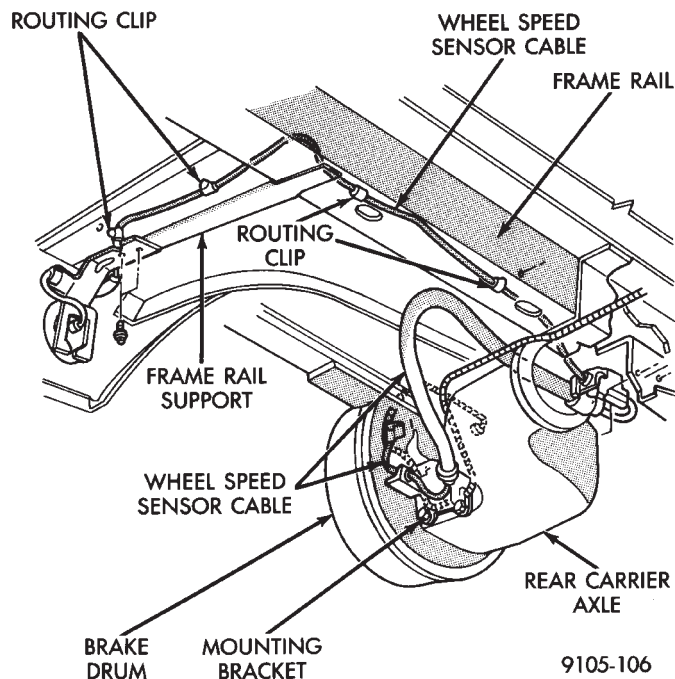
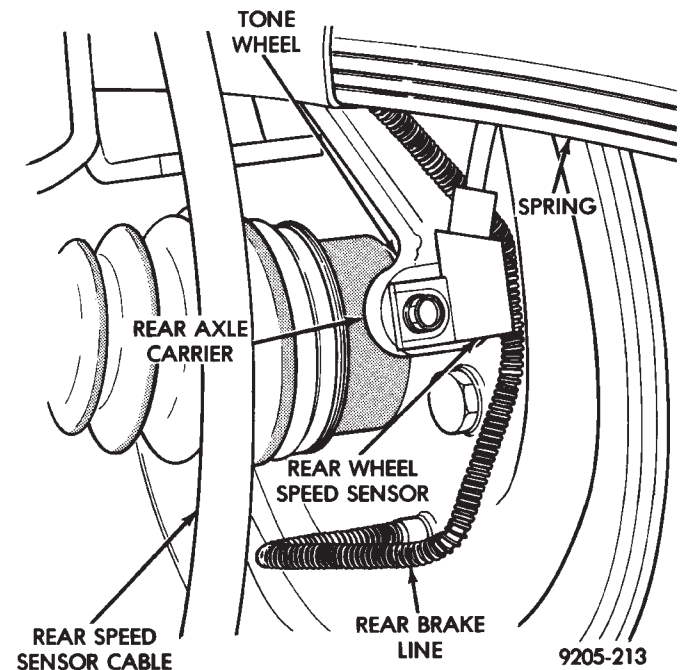

Fig. 23 Rear Wheel Speed Sensor Routing A.W.D
Fig. 24 Rear Wheel Speed Sensor Mounting A.W.D INSTALLATION ALL WHEEL DRIVE.
(1) Raise vehicle and remove rear wheel and tire assembly.
(2) Remove rear speed sensor wiring grommet, retaining bracket. Remove grommet from underbody and pull harness through hole in underbody. (Fig. 23) **When removing grommet from underbody, do not pull on speed sensor cable.**
(3) Unplug speed sensor cable connector, from vehicle wiring harness.
(4) Remove the 4 arrow head clips which route the speed sensor cable along the underbody (Fig. 23).
(5) Remove the speed sensor cable and its frame rail routing bracket as an assembly. (Fig. 23).
(6) Remove the 2 bolts which secure the speed sensor cable assembly mounting bracket to the rear axle. Remove the bracket assembly from the vehicle by rotating the bracket and removing it from under the brake tube.
(7) Remove the speed sensor assembly attaching bolt (Fig. 24).
(1) Position the rear wheel speed sensor assembly bracket under the brake tube (Fig. 23). Hand start the outboard bracket attaching bolt. Align the brake tube clip and sensor assembly bracket and secure with bolt. Torque both bolts to 17 N•m (145 in. lbs.)
(2) Coat the wheel speed sensor head with High Temperature Multi-Purpose E.P. Grease. Install the wheel speed sensor head into the rear axle casting (Fig. 24) and install bolt. Torque the speed sensor to rear axle attaching bolt to 7 N• (60 in.lbs.)
(3) Bend the speed sensor cable assembly, rubber coated section toward the rear of the vehicle. Position the anti-rotation tab of the sensor assembly frame rail bracket, into its respective hole. Install the screw that attaches the frame rail bracket to the frame and torque to 4 N•m (35 in. lbs).
(4) Connect the speed sensor cable assembly to the vehicle rear wiring harness. Install the speed sensor cable assembly wiring grommet (Fig. 23) back into the underbody wiring access hole.
(5) Position the rear speed sensor cable assembly grommet retaining bracket on the underbody, (Fig. 23) making sure the bracket does not pinch the sensor wiring. Install the 2 bracket mounting screws and torque to 4 N•m (35 in.lbs.).
(6) Route the speed sensor wiring along the vehicle frame rail (Fig. 23) and install the 4 arrow head clips.
(7) Install the rear wheel assembly and torque the wheel stud nuts to 129 N•m (95 ft.lbs.)